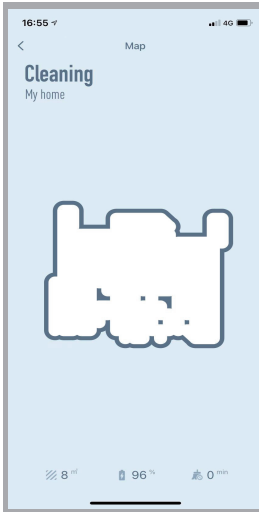

Fig. 12
D). Click the icon  to check the cleaning / mopping map as Fig.12.